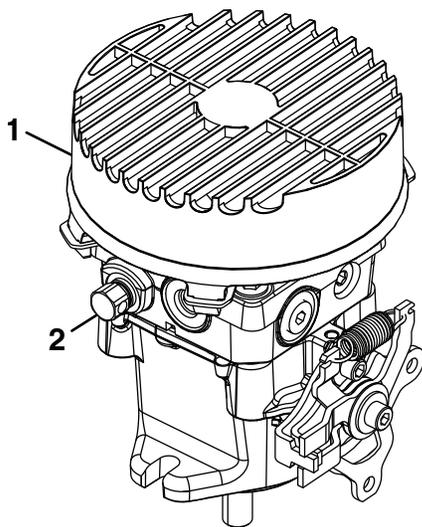

Figure 27
The critical area for purging air from the hydraulic system is between the oil reservoir and each charge pump located on the top of each variable displacement pump (Figure 27). Air in other parts of the hydraulic system will be purged through normal operation once the charge pump is “primed”.
4. Open the bypass valve (shown in Figure 27).